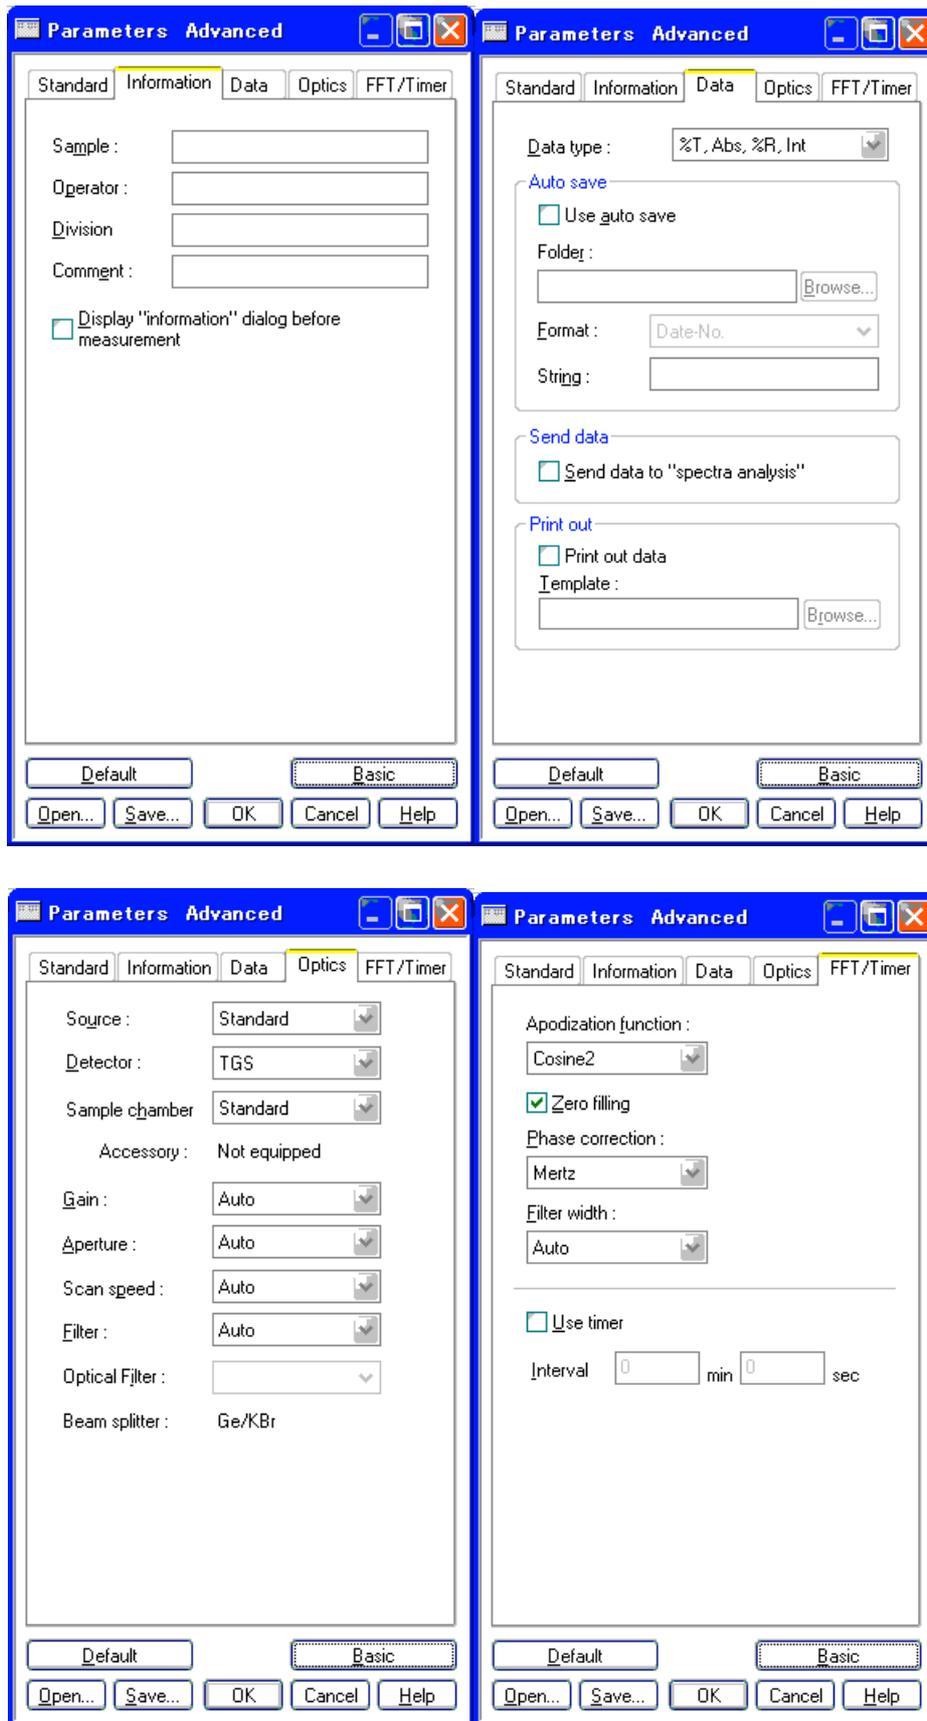

Fig.2.15 [Information], [Data], [Optics] and [FFT/Timer] tabs of [Parameters] dialog
(6) Select the [Information] tab (Fig. 2.15). Enter **Air** as the [Sample Name]. Change other settings as desired. The [Operator] and [Division] fields are input automatically for the current user. To input a [Comment], click on the comment field. If the [Information] fields are to be changed before every measurement, check the [Display “information” dialog before measurement] check box.
(7) Select the [Data] tab. Select [%T, Abs, %R, Int] from the drop down menu for the [Data Type]. Ensure that [Auto save] and [Print out data] are unchecked (i.e., OFF), but that [Send data to “spectra analysis”] is checked.
(8) Select the [Optics] tab. Each parameter is set as follows: [Source] is “Standard”; [Detector] is “TGS”; and [Sample chamber] is “Standard”. In addition, all of the IF (interferogram) parameters (Gain, Aperture, Scan speed and Filter) are set to “Auto”.
(9) Select the [FFT/Timer] tab. Each parameter is set as follows; [Apodization function] is “Cosine”, [Phase correction] is “Mertz” and [Phase correction filter] is “Auto”. Check the [Zero filling] check box and uncheck the [Use timer] check box.